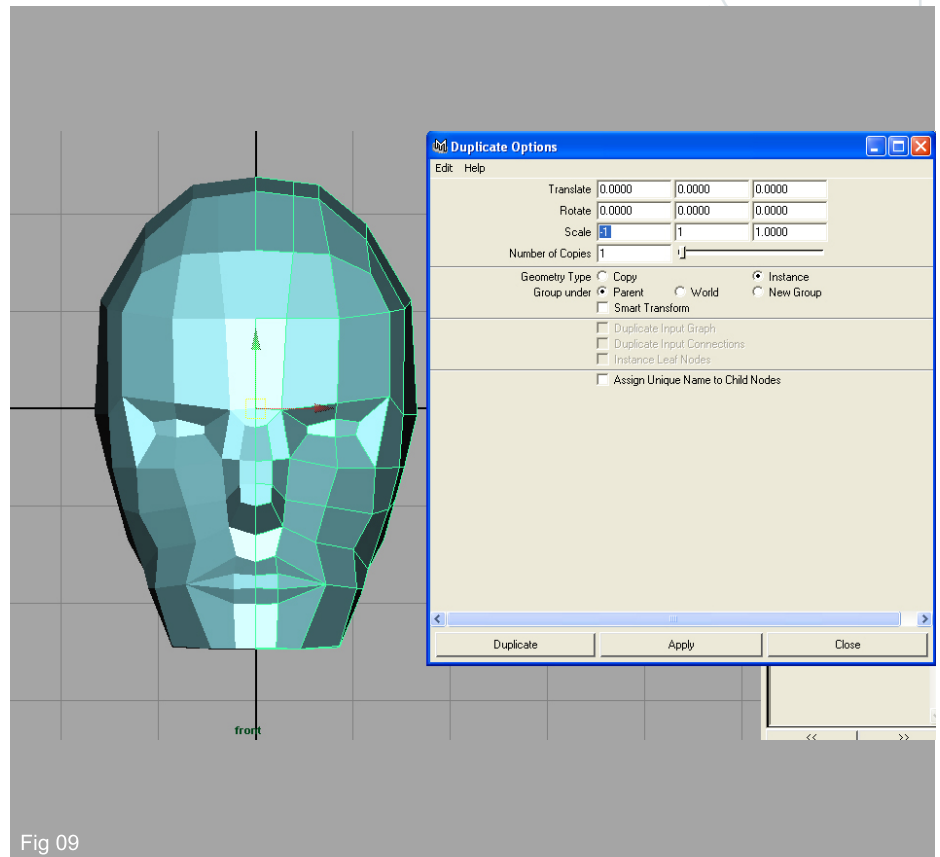

Fig 09
9. Select your halved head and duplicate it (Edit < Duplicate < Options Box). In the duplicate options box set the X Scale to "-1". This will mirror the geometry. Also, change geometry type to "instance". This will make your duplicate follow along with your original model as it's updated. Hit duplicate when you're done and you should have a mirrored version of your head. If it's not in the right place, move it so it's aligned properly with the original head. (Fig 09)